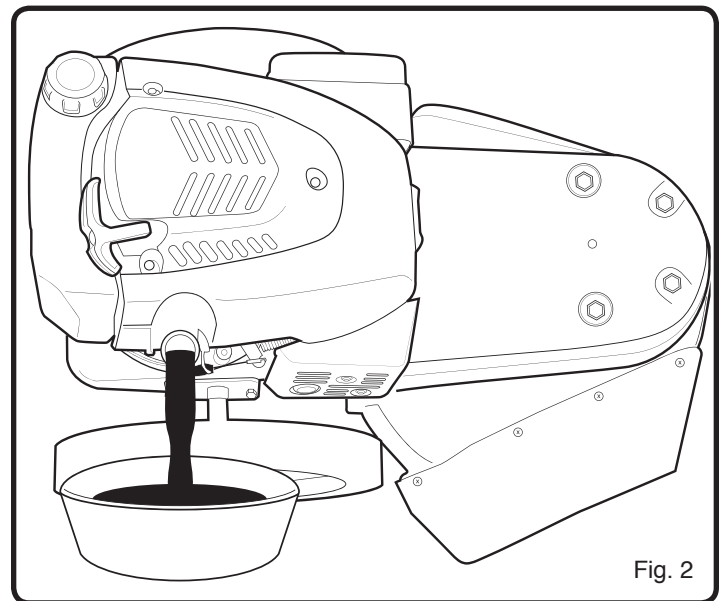

Fig. 2
4. Place a suitable container next to field trimmer to catch the used oil, and then tilt the field trimmer on its right side. The used oil will drain through the filler neck. Allow oil to drain completely. (See Fig. 2)